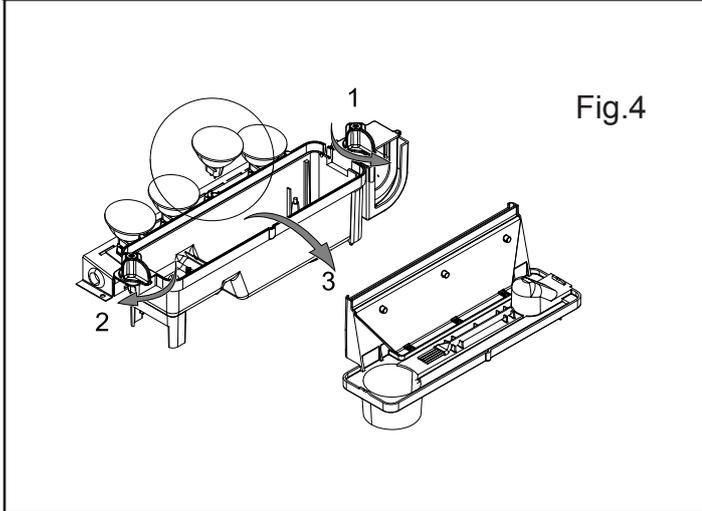

Fig.4
2. It should be possible to view the lamps with the nozzle (See Fig.4) in place and observe which one needs to be changed.
6. Remove the defective lamp, by gently lifting vertically and disengaging the pins from the lamp holder, (See Fig.4 and 4a). Replace with a Dimplex Opti-myst, 12V, 50W, Gu5.3 base, 8° beam angle, coloured lamp. (Purchased from www.dimplex.co.uk under the section 'After Sales Service', details of how to purchase the lamps are contained therein.)
7. Carefully insert the two pins of the new lamp into the two holes in the lamp holder. Push firmly in place. (See Fig.4 and 4a).
7. Release the left sump locking tabs by turning 90°, then lift off the Nozzle. (See Fig.4)